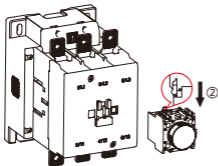
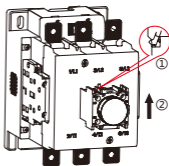

Figure 8 Installation of air delay head
Figure 9 Removal of air delay head
(3)The installation and removal of the air delay head are shown in Figure 8 and Figure 9.